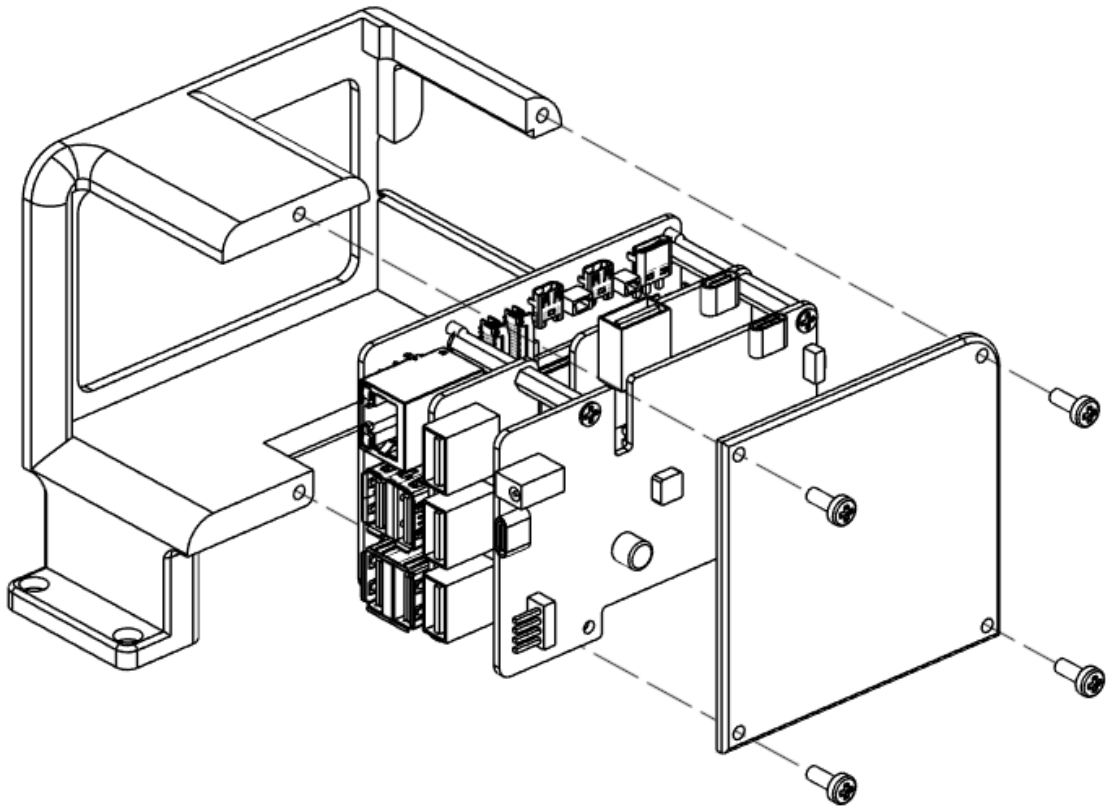

Figure 0.9 - Raspberry Pi Holder Assembly
6. Insert Raspberry Pi Assembly into Raspberry Pi Holder and Fasten Lid as shown in Figure 0.9
- a. (4) M3x8mm